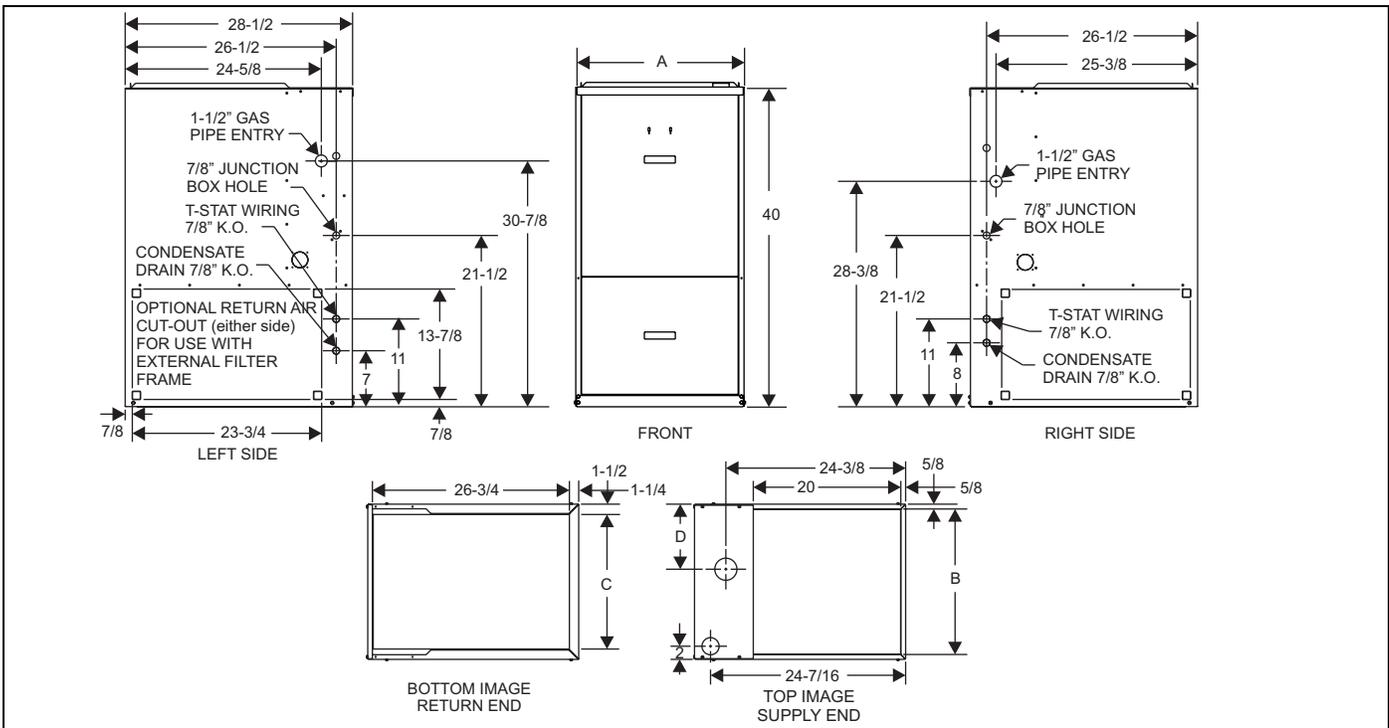

FIGURE 4: Dimensions
**IMPORTANT:** Some accessories such as electronic air cleaners and pleated media may require a larger side opening. Follow the instructions supplied with that accessory for side opening requirements. Do not cut the opening larger than the dimensions shown in Figure 4.
Gas piping may be connected from either side of the furnace using any of the gas pipe entry knockouts on both sides of the furnace. Refer to Figure 4 dimensions.